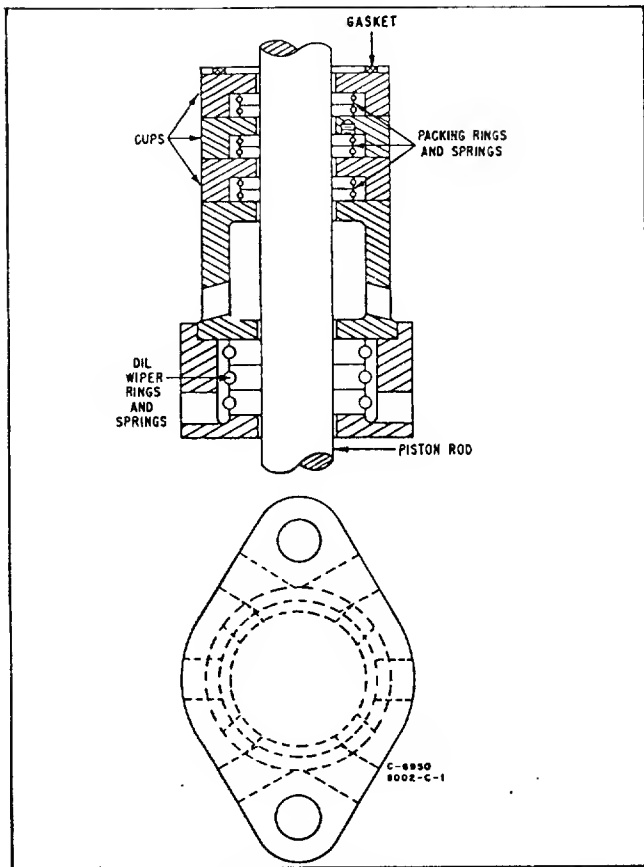
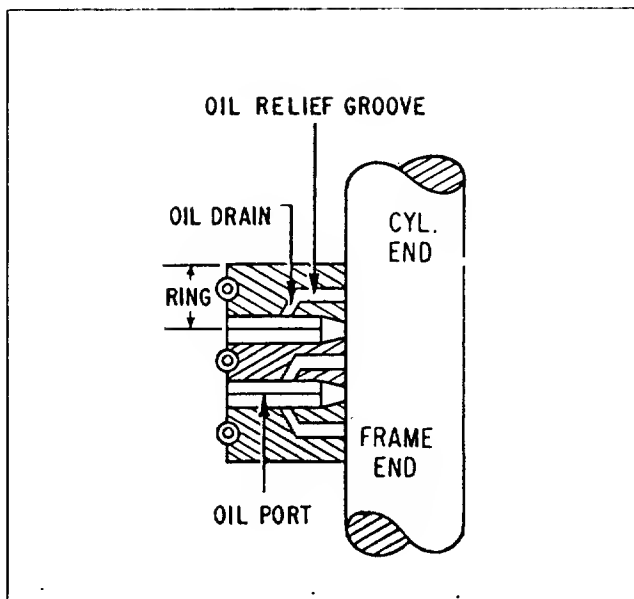

Figure 5-3. Piston Rod Packing and Oil Scraper Rings
Figure 5-5. Oil Scraper Ring Arrangement
are supplied for moderate pressures and temperatures where sufficient lubrication exists. Other ring materials are used for special conditions of pressure, temperature gas composition, or rod material. See Figure 5-3 for packing illustration.
2. Install the rings on the rod as shown in Figure 5-3. Before the case is closed, pour oil over the rings.
Refer to Figure 5-3 and Figure 5-5.
Renewal oil scraper rings are furnished in sets of three; each ring consisting of three segments. These segments are lettered or numbered and markings of adjacent segments **MUST** match. Before installing new rings, carefully clean the gland and assemble the rings on the rod as illustrated by Figure 5-3 and 5. The total side clearance of the scraper rings should not be more than .005" (.127 mm). Check this clearance with a straight edge before securing the gland in place. If clearance is insufficient for rings to float on the rod, they will not function properly. Too much clearance will cause the rings to act as a pump instead of wiping oil from the rod.